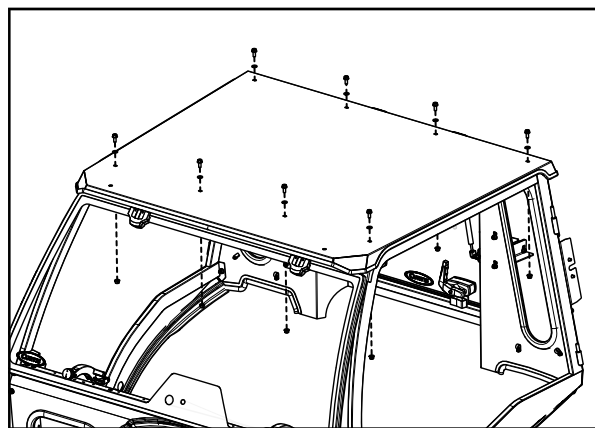

Fig. 10.1 (Roof Installation)
10.1 With assistance, lift the roof onto the side frames. See Figure 10.1. Move the roof into position, and fasten with bolts, plastic washers, and nuts. Tighten hardware.